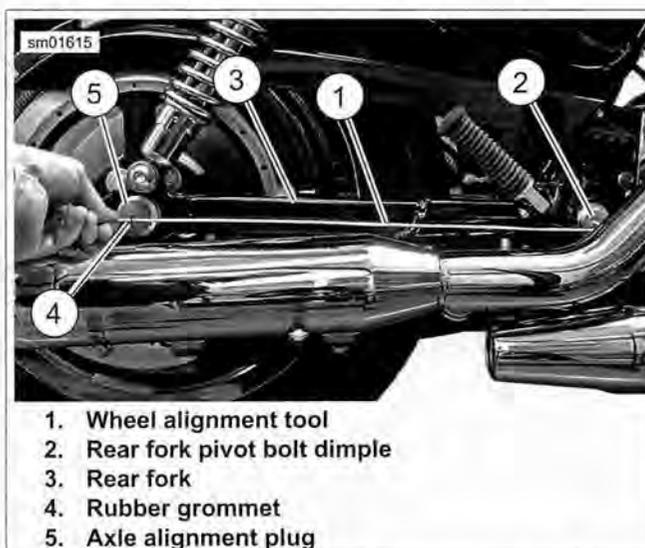

Figure 1-57. Checking Wheel Alignment Using Wheel Alignment Tool: XL Models
4. See Figure 1-57. Insert blunt point of alignment tool in rear fork pivot bolt dimple (2) on right side of rear fork (3). Slide rubber grommet along tool shaft until it aligns with hole in center of alignment plug (5). Without moving grommet, position alignment tool on left side of rear fork. Verify that distance between rear fork pivot bolt and rear axle alignment plug center is the same as on right side.